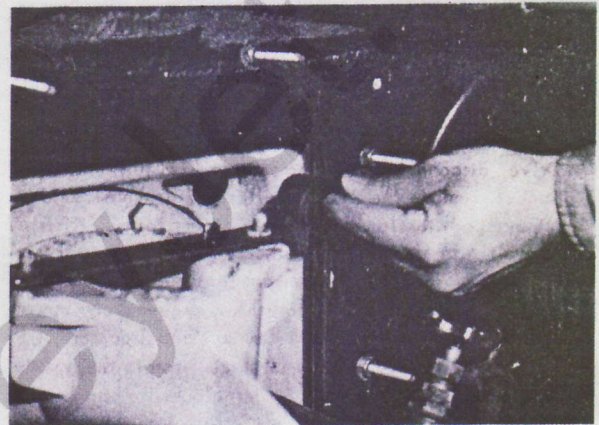

Figure 5
- Insert O-Ring (9) into steering tube bearing (10). From INSIDE of boat start long, chamfered end of bearing through steering tube hole in transom adapter, positioning either milled flat or shoulder of bearing toward bowl (Figure 5).
- Using block of wood and hammer, lightly tap bearing rearward until pivot points on bearing contact transom adapter. Now lubricate new steering tube (11) with Lubriplate or other suitable substance, and insert